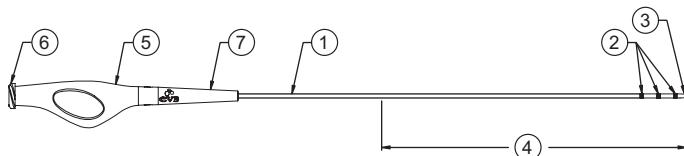

Figure 1. TrailBlazer support catheter
As shown in Figure 1, the distal catheter shaft has 3 radiopaque markers (2) that aid in positioning the catheter. The distal 40 cm portion of the catheter (4) has a hydrophilic coating. The proximal lumen (6) begins within the manifold (5), transitions through the catheter shaft, and terminates at the distal tip. This lumen is used to pass the catheter over a guidewire. The maximum diameters of compatible guidewires are listed in the Table 1 specifications. The catheter guidewire size and length are printed on the strain relief (7).